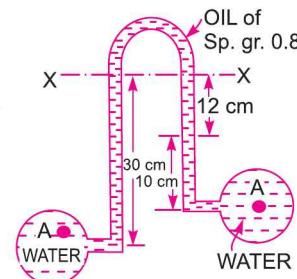

Fig. 2.22
**Problem 2.18** Water is flowing through two different pipes to which an inverted differential manometer having an oil of sp. gr. 0.8 is connected. The pressure head in the pipe A is 2 m of water, find the pressure in the pipe B for the manometer readings as shown in Fig. 2.22.
Fig. 2.22 shows the arrangement. Taking X-X as datum line.